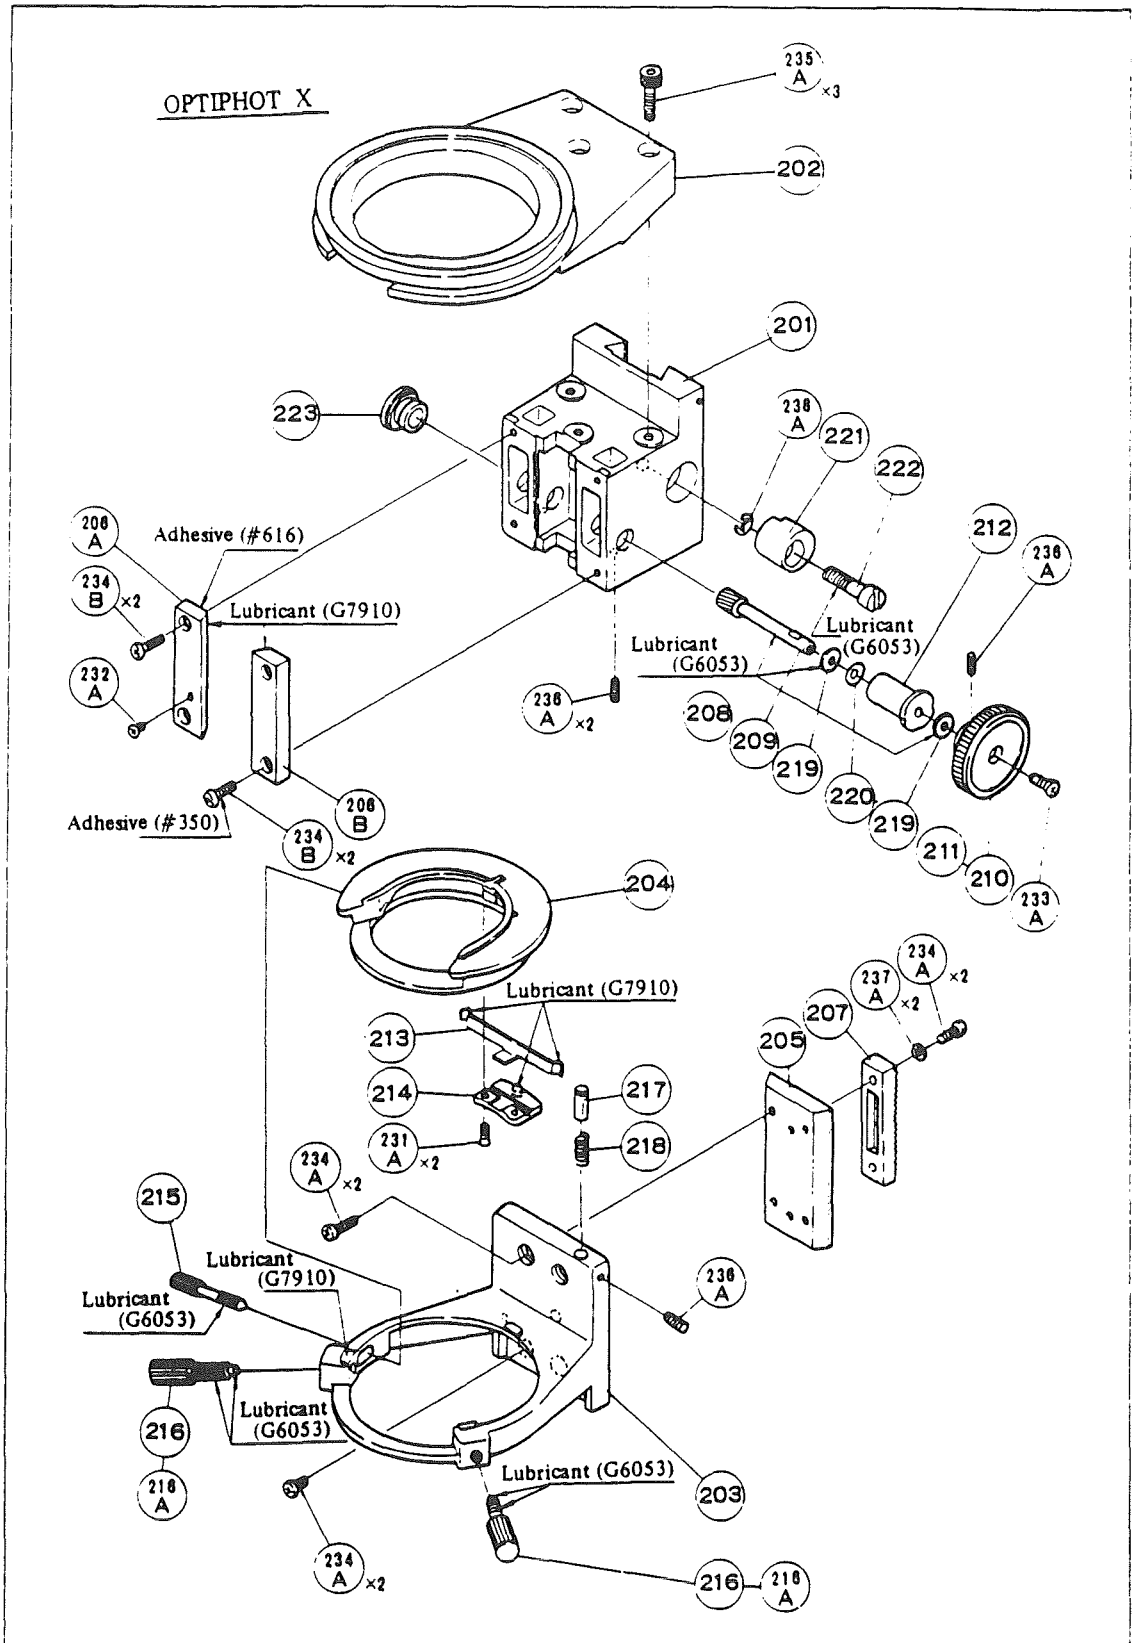

Fig. 11
**2. Substage Unit (OPTIPHOT, LABOPHOT) (Fig. 11, 12)**